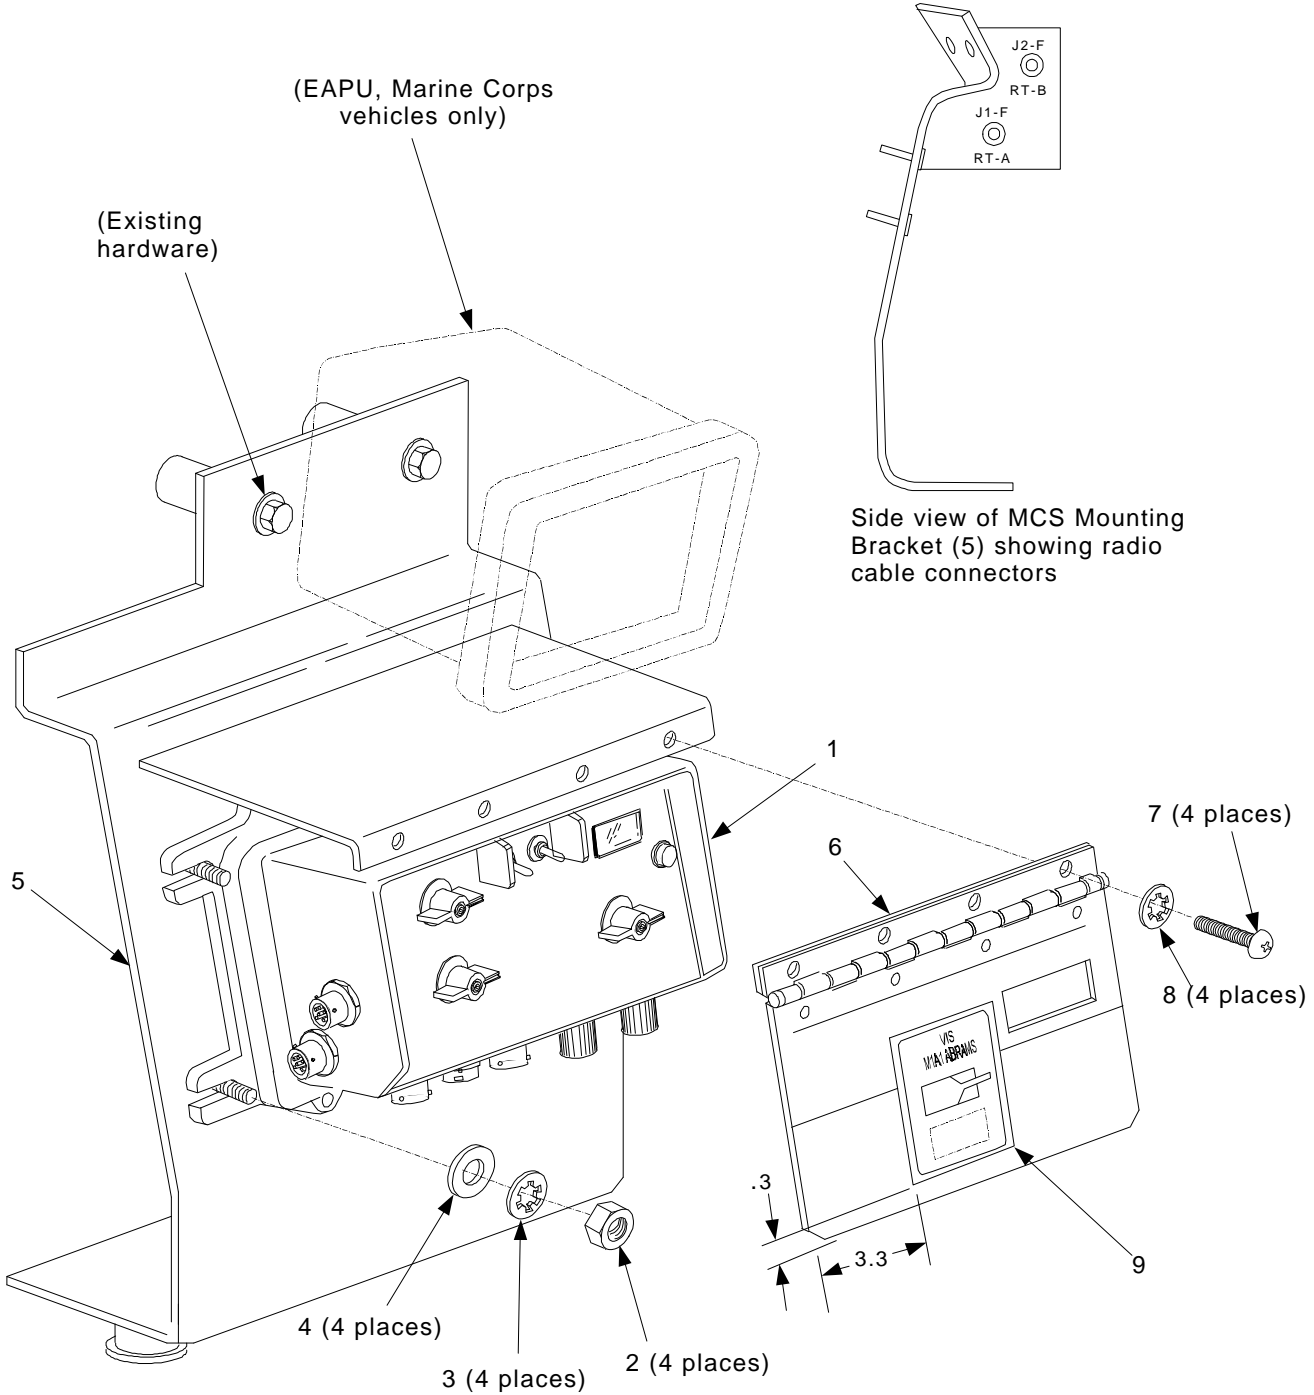

Figure 4-3. MCS Installation
- a. Install and secure the MCS Mounting Bracket (5) to existing standoffs using existing hardware. While attaching the MCS mounting bracket use caution not to damage radio cable connectors against rear wall of turret. Transfer cables attached to back of previous mounting bracket to back of new MCS mounting bracket.
- b. Install and secure the MCS (1) to MCS mounting bracket (5) as far to the right as possible. Secure using Items 2, 3 and 4 from Table 4-1 in the sequence(s) shown in Figure 4-3 and the following tools:
- c. Install and secure MCS Cover Assembly (6) using items 7 and 8 from Table 4-1 in the sequence(s) shown in Figure 4-3 and the following tools
- d. Place the M1A1 Main Battle Tank decal (Item 9), on the MCS Cover Assembly (6) as shown in Figure 4-3.